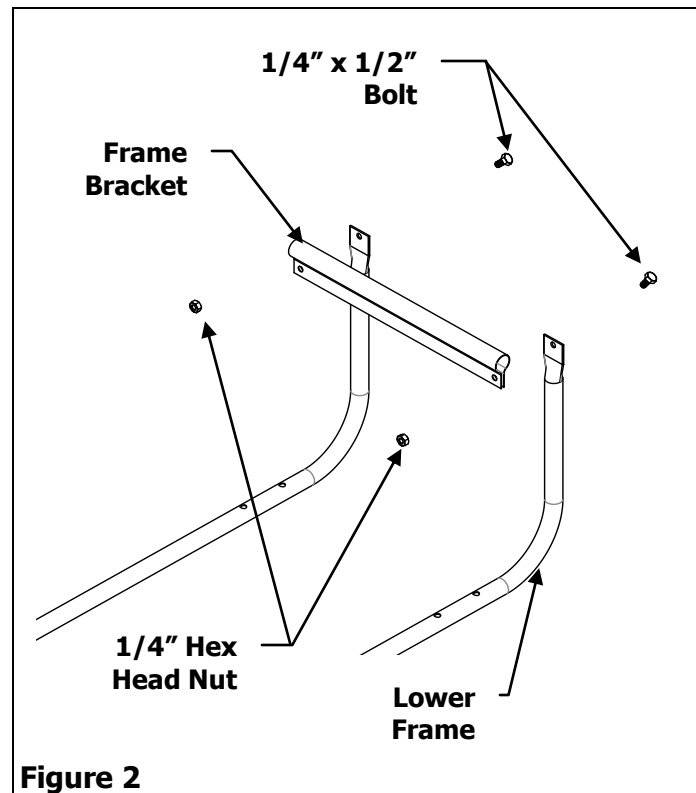

Figure 2
2. Mount the Lower Frames, to the Frame Bracket by inserting 1/4" x 1/2" Bolts through the Lower Frames. Then insert through the holes in the Frame Bracket and secure with 1/4" Hex Head Nut. Repeat the process on the other side. See Figure 2.